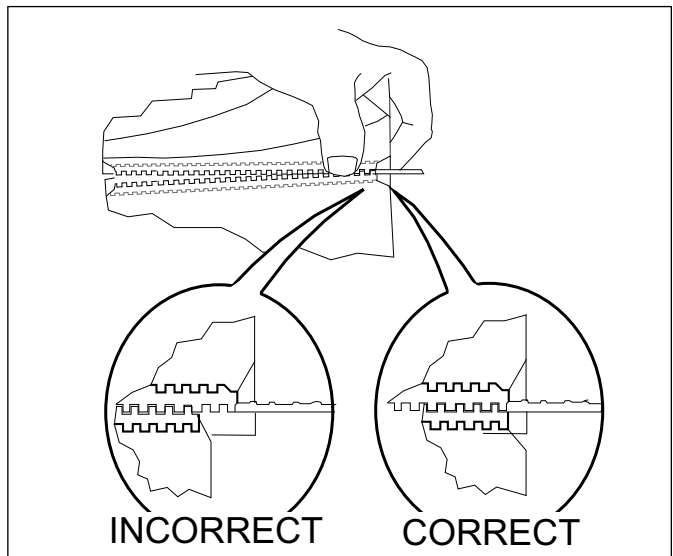

Figure 10. Aligning Belt Teeth
6. Install the new Belt Wraps around the Conveyor Belt Chains inside the Upper and Lower Support Rods with the zipper flap exposed and hanging down (Figures 10 & 11).